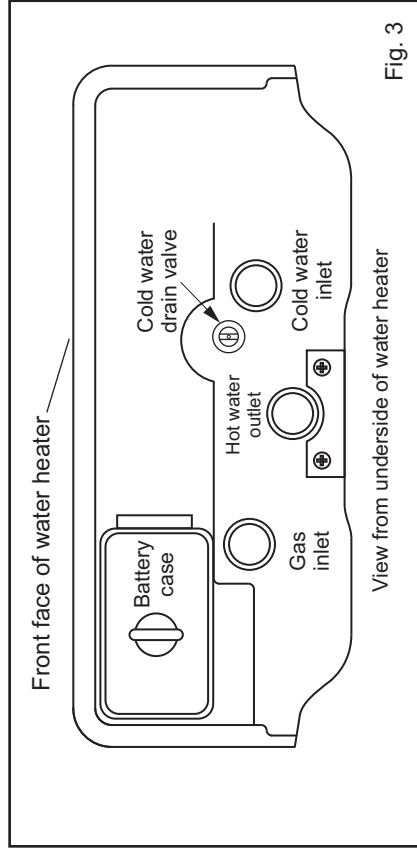

Fig. 3
- The mounted position of the water heater should be such that the viewing window is between 1.4m & 1.6 m from the floor level. This will make it easy for users to check that the burners are alight. (See Fig. 3)
- burners. Use the burner viewing window to check that the burners are alight. (see Fig. 3)
- Once the burners are lit and water is flowing, adjust the water flow adjusting knob to the required flow rate and then adjust the rotary gas control to achieve the required water temperature. (See Fig. 3). By experiment, and by adjusting the water and gas flow settings, users will soon establish the optimum settings.